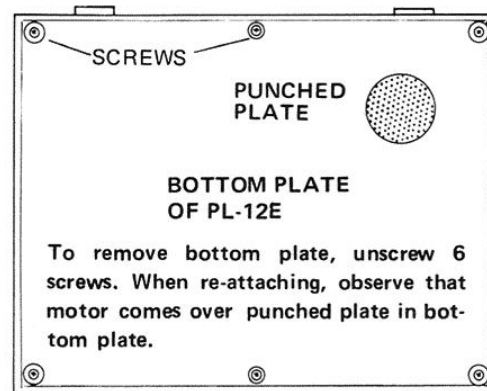

Fig. 1
1. The line voltage selector switch, provided inside the wooden base, can be seen when the bottom plate is opened (Fig. 1).